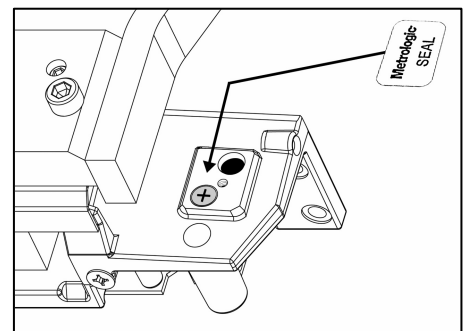

Figure 56.
2. Apply the adhesive calibration security seal over the calibration button access hole (see *Figure 56*).